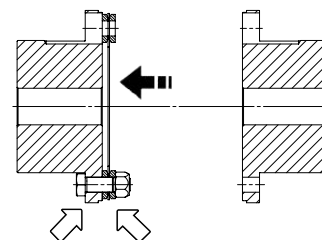

Figure 2
4.1.4. Ensure that the flanges of the hubs (1) and the spacer (3) are perfectly degreased. Unpack the discs and the screws. Mount the disc (2) on one hub (1) with screws
and nuts (4) in the direction shown on the fig. 2 Tighten to torque T while holding the screws still and turning the nuts. See tabulation 1 for tightening torque (T Nm) and socket size (s mm).